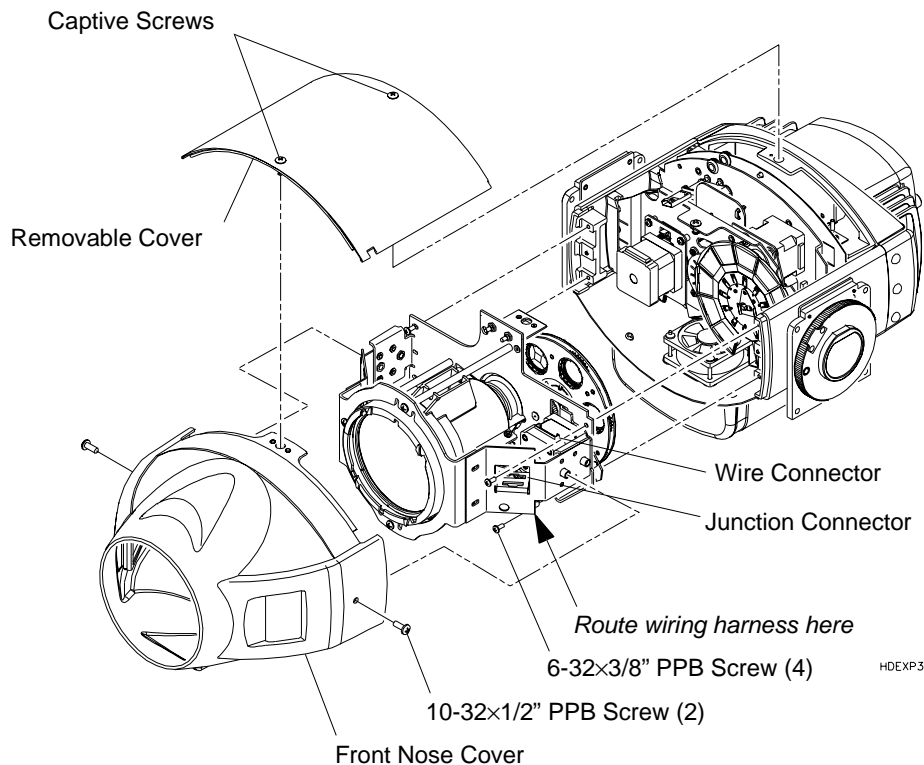

Figure 2-8: Front Assembly Removal
- Step 2. At head cover, turn two captive screws one-quarter turn and remove cover. (It will remain attached by tether.) **Figure 2-8.**
- Step 3. Remove front nose cover by removing two 10-32×1/2" PPB screws (one on each side). **Figure 2-8.**